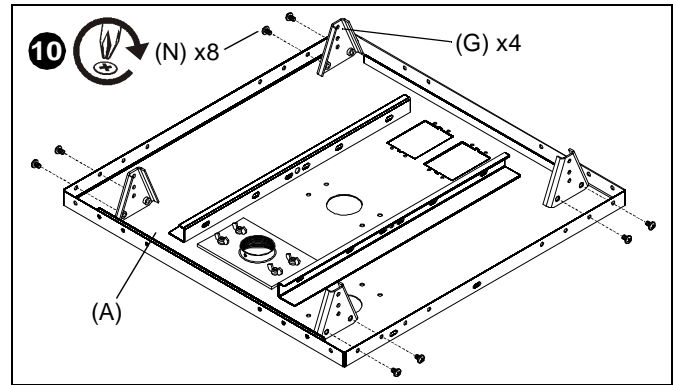

Figure 6
10. Install hanger brackets (G) to tray (A) with screws (N) at marked locations (See Figure 6). Ensure brackets (G) are installed against *inside* flanges of tray (A). Tighten screws.